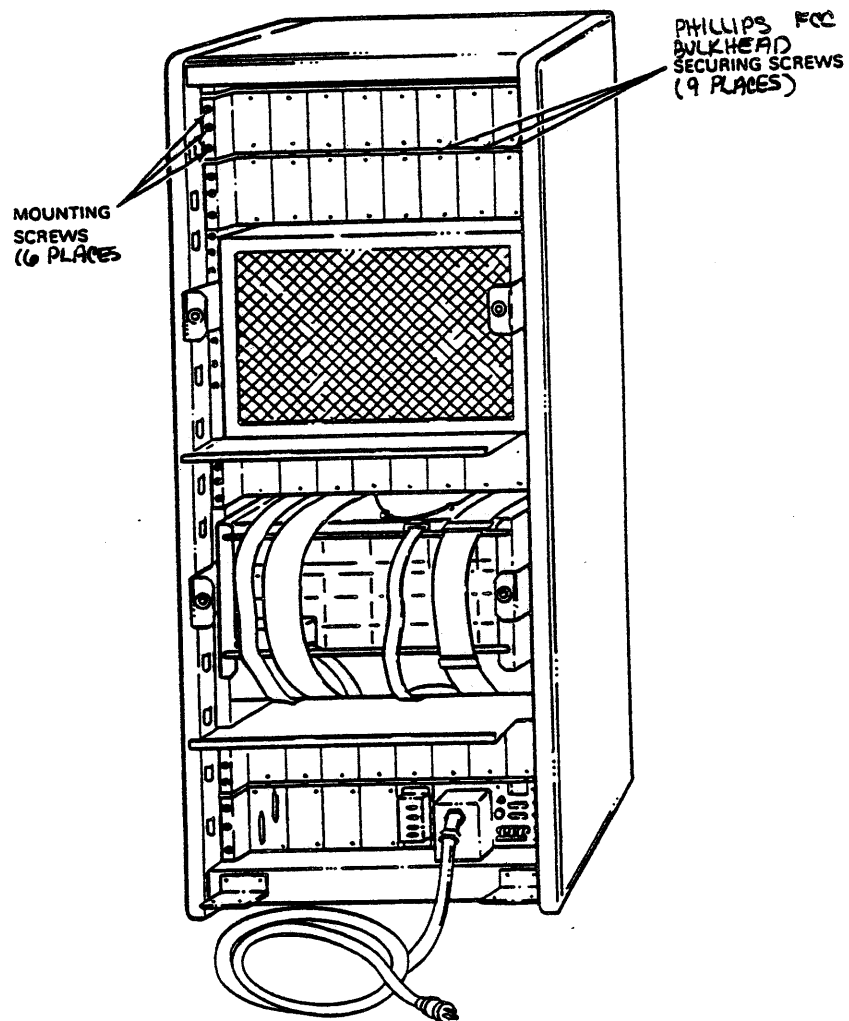

Figure 2-5 Typical H9652-MF (VAX11-780) FCC Shielded Cabinet before H3014 Installation
2. Remove the FCC Shield Gasket Panel Assembly (Figure 2-5) by removing the following:
- Two (2) 7/16 Hex head screws are located on the top right side and top left side of the gasket panel assembly. These secure the FCC Shield Gasket Panel to the vertical mounting rails of the cabinet.
- Nine (9) phillips screws are located under the gasket panel assembly. These screws secure the FCC Shield Gasket Panel to the FCC Bulkhead Frame.
3. Remove the nine (9) small phillips screws (Figure 2-5) that secure the FCC Bulkhead Frame to the top of the cabinet frame.
4. Remove the six (6) mounting phillips screws (Figure 2-5) that secure the top most FCC Bulkhead Frame to the cabinet vertical mounting rails.